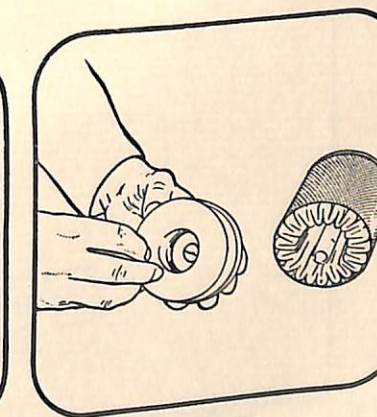

FIG. 75.
- (j) Replace felt pad to bottom cover plate before replacing cage and element complete (see fig. 75).